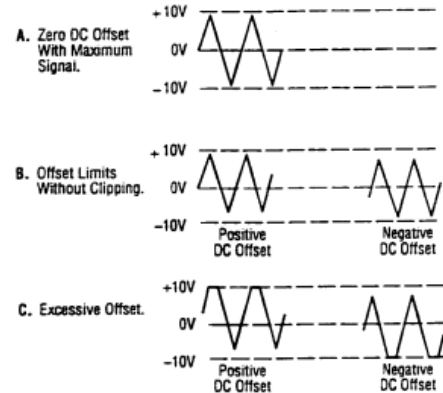

Figure 3. Use of DC OFFSET Control
- A superimposed DC component can be added to the output signal by engaging the **DC OFFSET** switch (14) to enable operation of the **DC OFFSET** control (5). Rotation of this control adds a positive or negative DC component to the output signal. The DC component introduced is independent of the **OUTPUT LEVEL** control and can be varied by  $\pm 10$  volts open circuited or  $\pm 5$  volts into  $50 \Omega$ . The DC Offset does not affect the **TTL/CMOS** output jack. The effect of DC OFFSET is shown in Fig. 3.
- Remember that the output signal swing of the generator is limited to  $\pm 10$  volts open circuited or  $\pm 5$  volts into  $50 \Omega$ , and applies to the combined peak-to-peak signal and DC offset. Clipping occurs slightly above these levels. Fig. 3 illustrates the various operating conditions encountered when using the DC offset. If the desired output signal is large or if a large DC offset is required, an oscilloscope should be used to make sure that the desired signal is obtained without undesirable clipping.